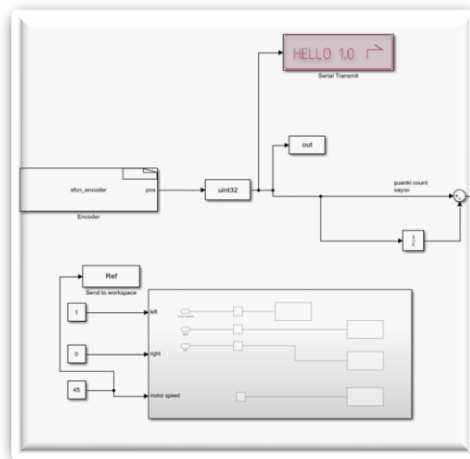

Figure 5: Block Diagram
- Bring the Hello 1.0 block to the location shown in **Figure 5**. This is the part where data is read from the encoder. Thus, when you start your engine, you will be able to read the data from the encoder according to the rotation number. After giving the left input 1, the right input 0 and the motor input 50, run the simulation for 5 seconds. Look at the total number of encoders per second from the graph and calculate how many rotations the motor takes. Add your chart.